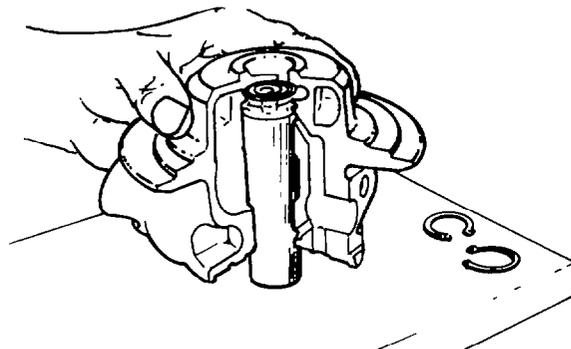

Fig. 150 — Installing Turbine End Outboard Circlip
- d. Use a pin punch to install the spring pins (item 14) in the centre housing (item 17).
- e. Working from the compressor end of the centre housing (item 17) use Tool J-29672 to install the turbine end outboard circlip (item 16) in the centre housing (see fig. 150).